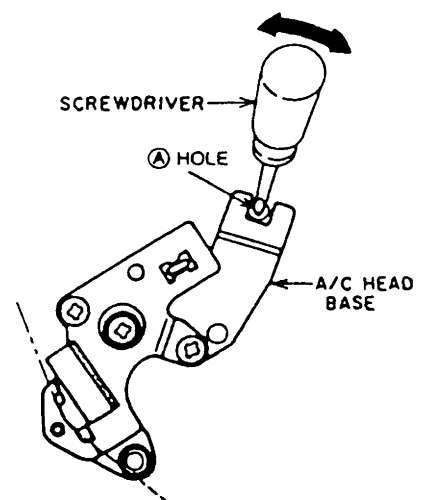

Fig. 4-17
- 5) Insert a sharp flat head (—) screwdriver into the A/C HEAD BASE and (A) hole as shown in Fig.4-17.
- 6) Move the A/C HEAD BASE by moving a screwdriver in the direction of the arrow as shown in Fig.4-17 to obtain the maximum RF output, then tighten the © screw.